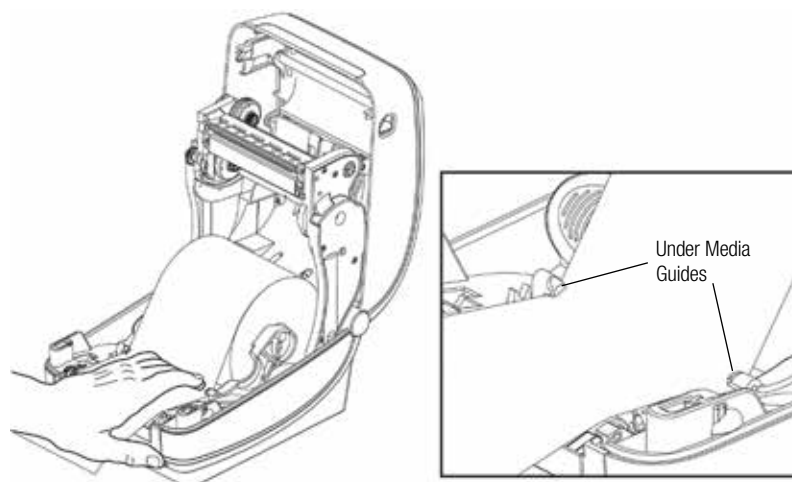

Figure 23
- Push the paper under both of the media guides. (Figure 23)